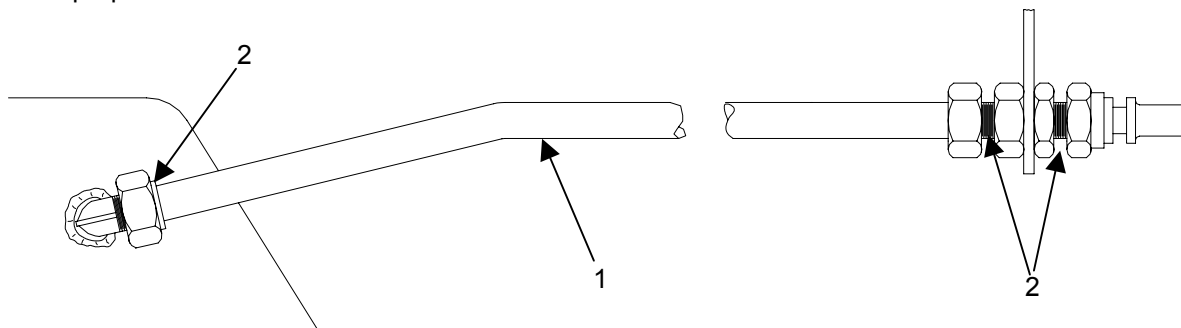

Figure 1. Inspect the Fuel Line Assembly
Inspect the fuel line assembly for damage to the fuel line (**figure 1, item 1**) and fittings. Check for leaks, loose connections (**figure 1, item 2**) or a dented fuel line. Dents or kinks in the fuel line can restrict or prevent proper fuel flow.